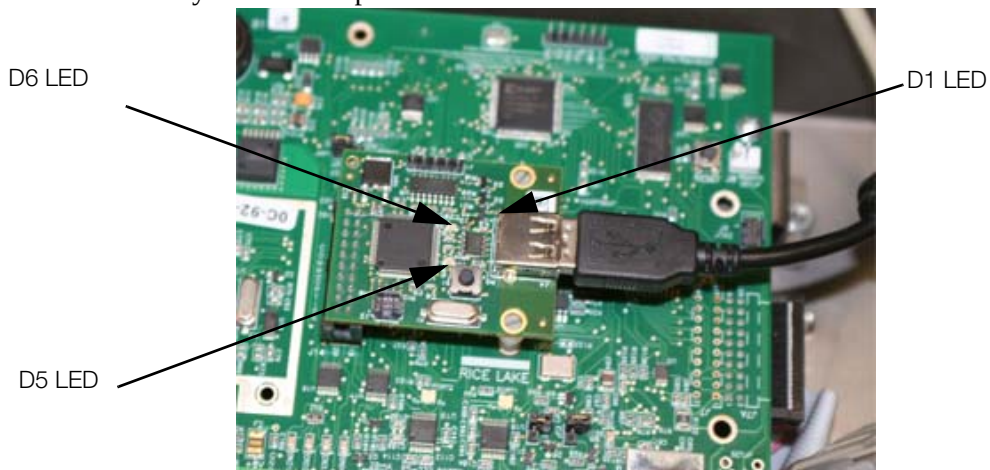

Figure 2-15. Installing the USB Option Card
- Several signal LEDs are located on the USB option board as shown in Figure 2-15.